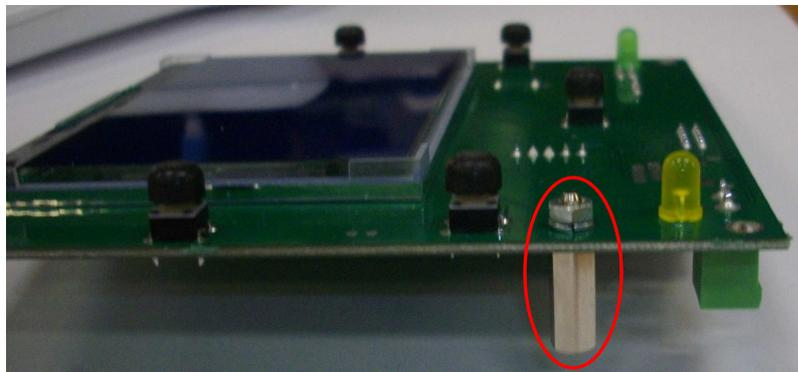
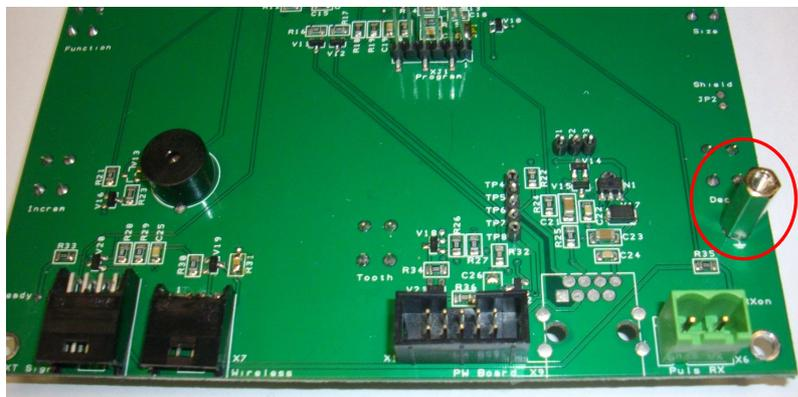

Figure 6-13
Figure 6-14
3. Assemble the hexagonal spacer on the CPU board A2 (component side) as shown in Figure 6-13 and Figure 6-14.